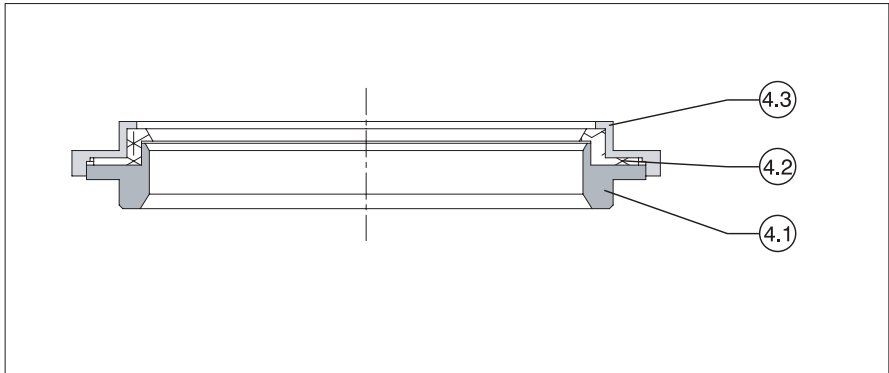

Figure 4 – Soft Seal
5.1.7 Remove the body gasket (11). For reduced bore (Figure 4), remove the cage adapter (42).
5.1.10 For reduced bore (figure 4), remove the seat adapter (41) and the seat adapter gasket (40).
5.3.2 For valves with resilient seat materials (figure 4), install the seat adapter gasket (40) and the seat adapter (41).
5.3.3 Install the seat gasket (5) and the seat (4) or in case of soft seal valve (figure 4), the bottom seat (4.1), seat ring (4.2) and top seat (4.3).